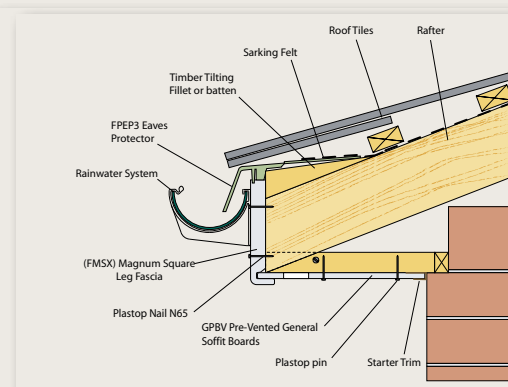

Fig 5. Magnum Xtra Square Leg Fascia with horizontal soffit.
**Figure 5** shows a typical installation of Magnum Xtra Square Leg Fascia with GPBV pre-vented soffit.